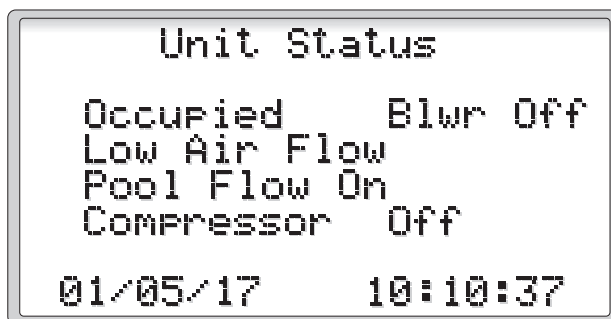

Figure 4
2.2.1.1 Unit Status (Figure 4)